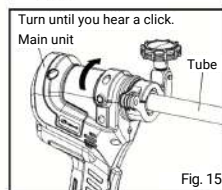

Fig. 15
- * Attach the clamp to the main unit by aligning the joints on the clamp with the recesses in the main unit, and then turn the main unit in the direction of the arrow until you hear a click. (Fig.15)